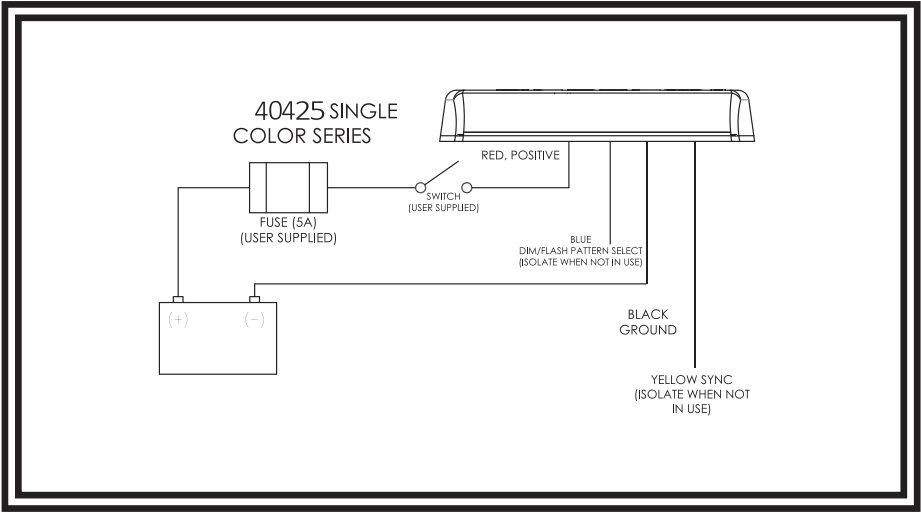

FIGURE 1
- 5.Connect the power wires as shown in the wiring section (see Figure 1).
The wiring for the permanent mount microbar is as shown in Figure 1. All wiring should be a minimum of 18AWG. The positive line must have a 5 amp fuse, as shown. A switch may be used to control the on/off function.